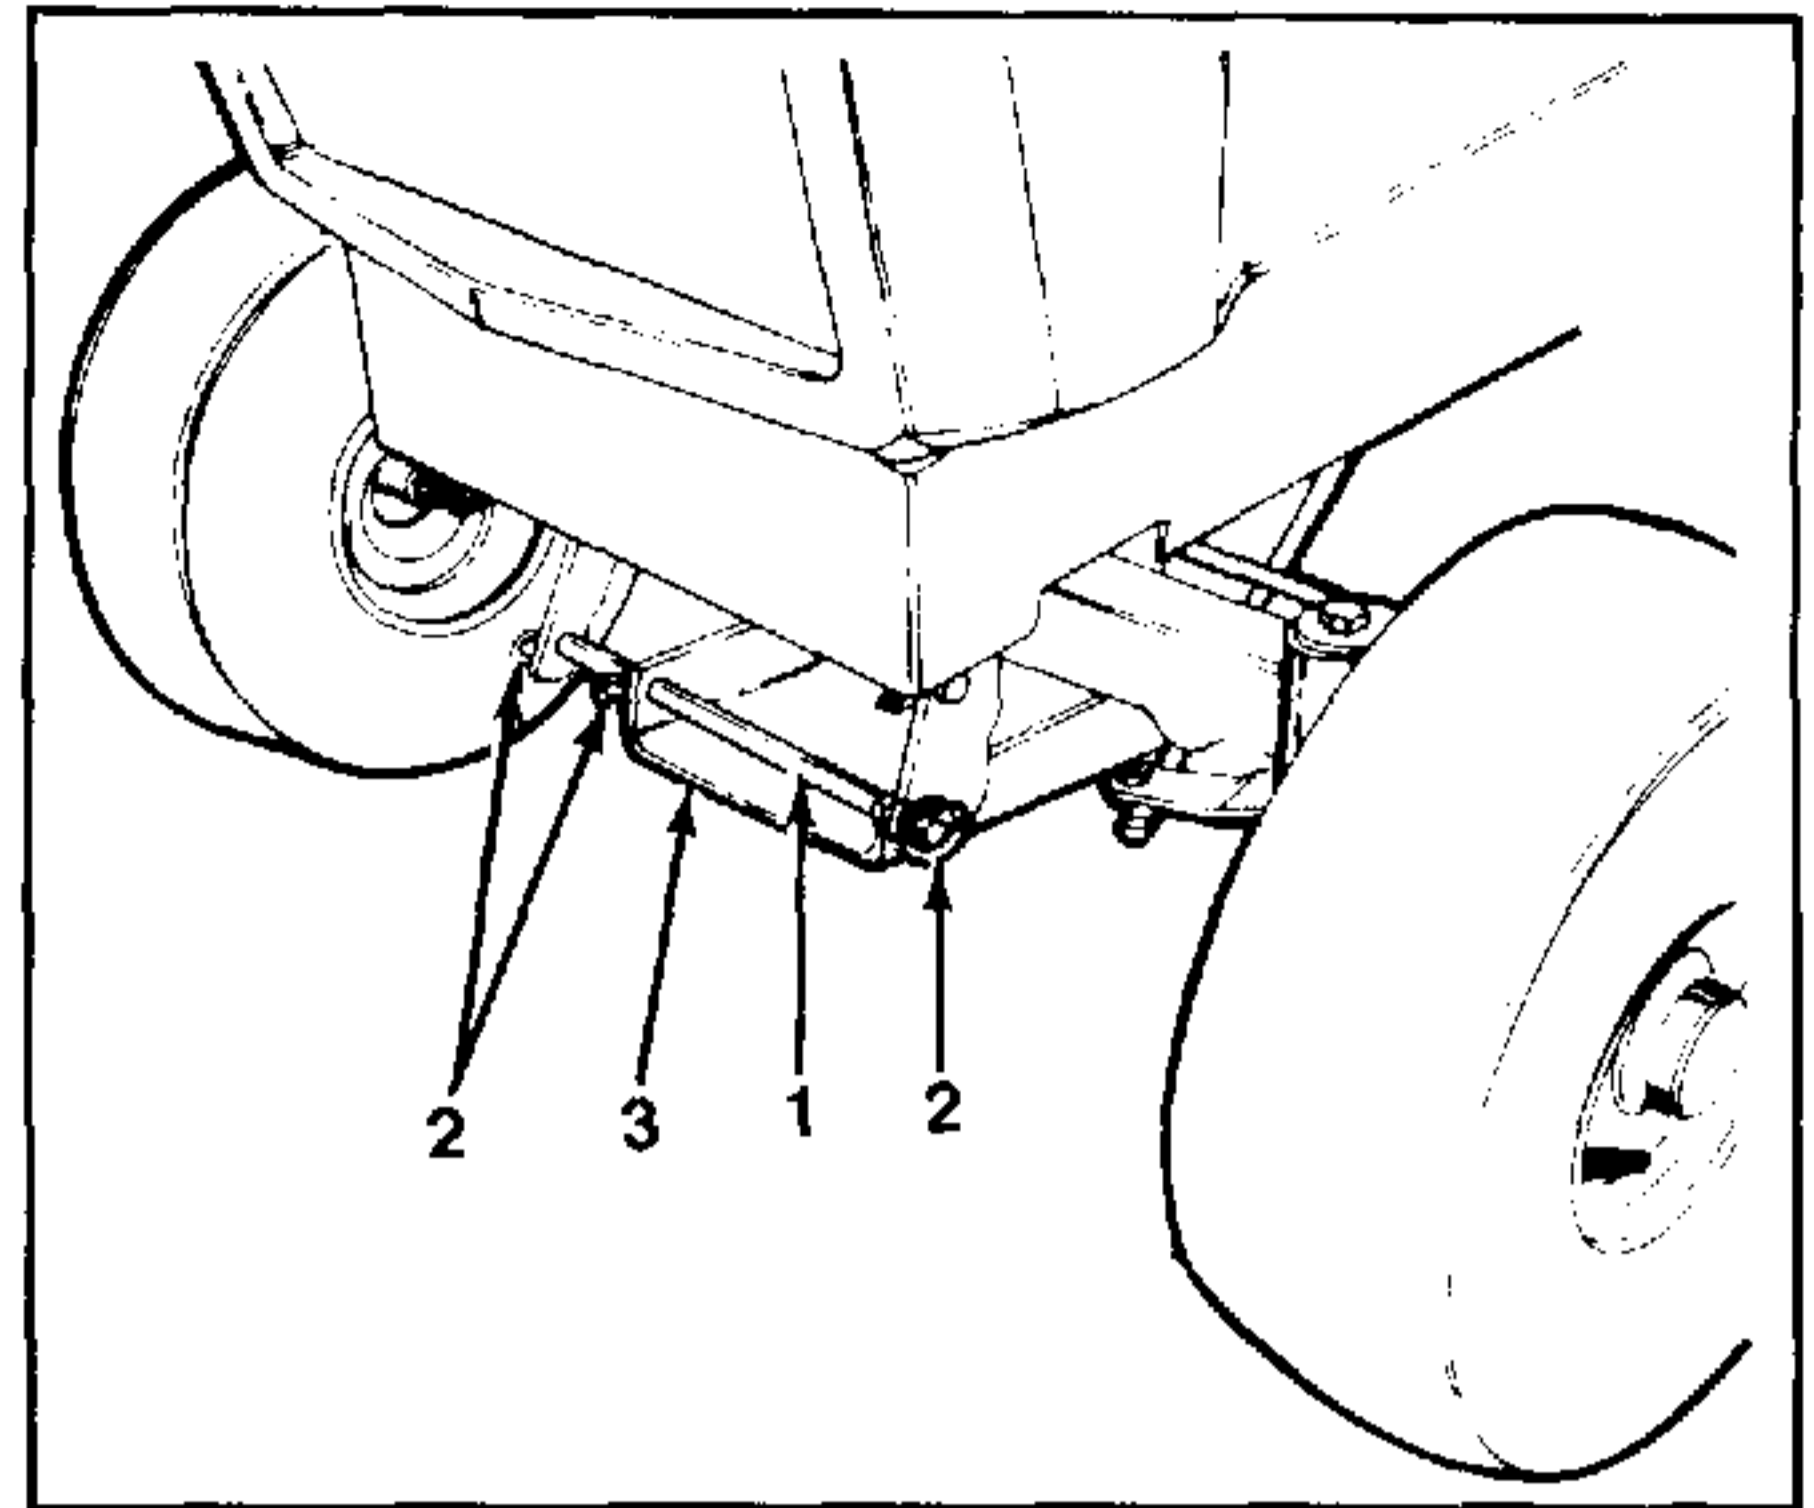

FIGURE 15.
Figures 15 through 20 illustrate attaching the mower deck to the tractor. The 38 inch deck is shown, but is typical of both the 44 inch deck and the 38 inch deck.
1. Assemble the front hanger assembly to the tractor as shown in figure 15.